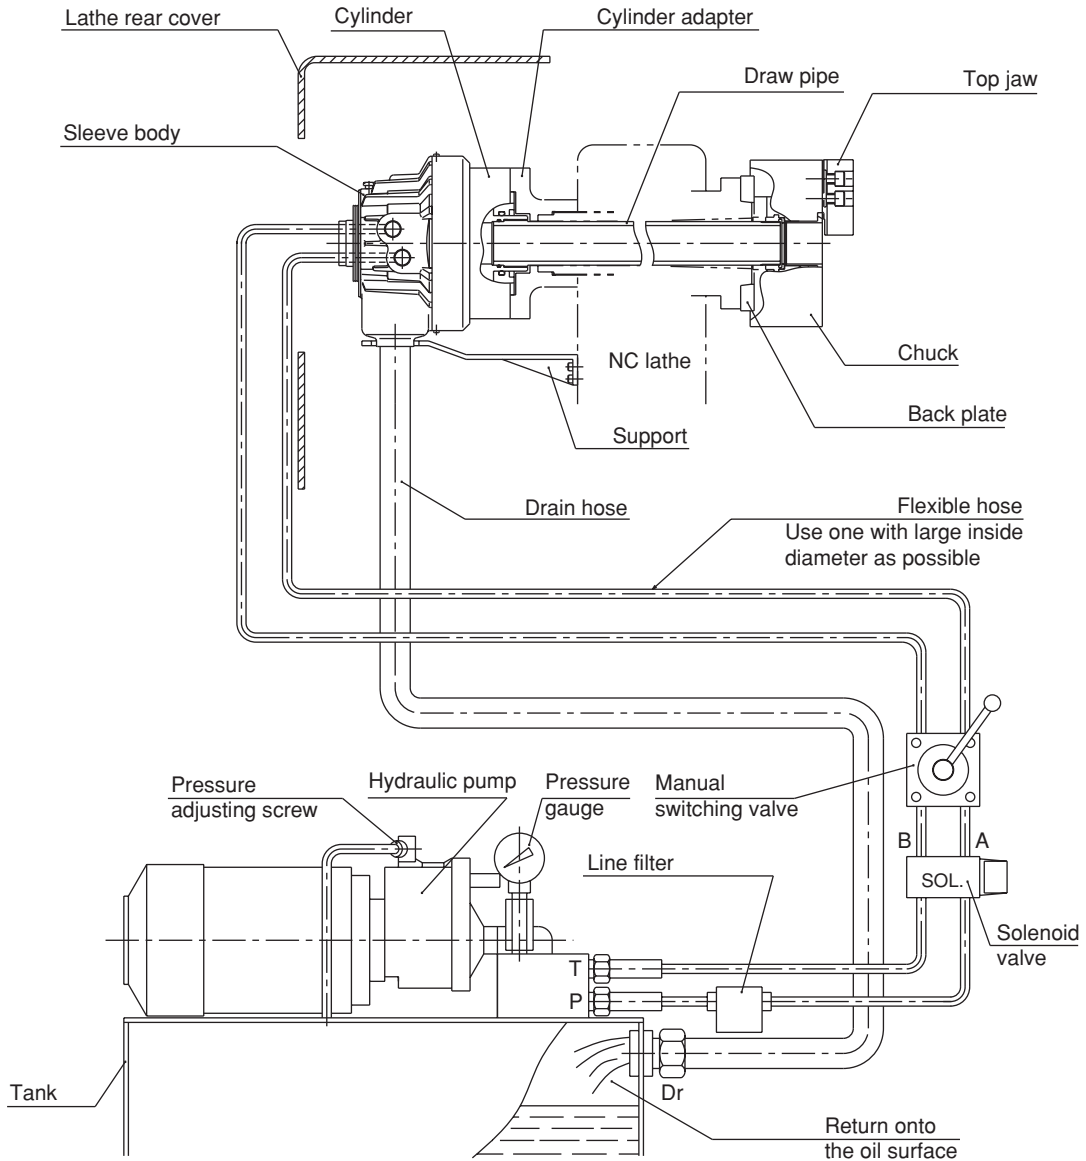

Fig. 8
- The end of the hose is physically above the oil level. (Refer to Fig.8)